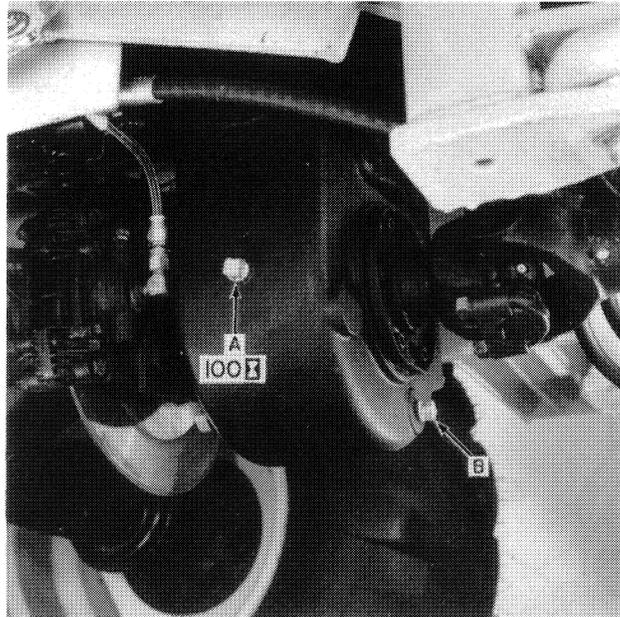

FIGURE 1-5
4. Fill the master cylinder reservoir with brake fluid rated DOT 3 and bleed the brakes at the caliper, Figure 1-5. Be sure to open the bleed screw for each piston in the caliper.
1. Back out the two special cap screws, Figure 1-5, and disconnect the hydraulic line.
4. Remove the hydraulic line, Figure 1-5.
12. Connect link, C, Figure 1-1, and hydraulic line, Figure 1-5.